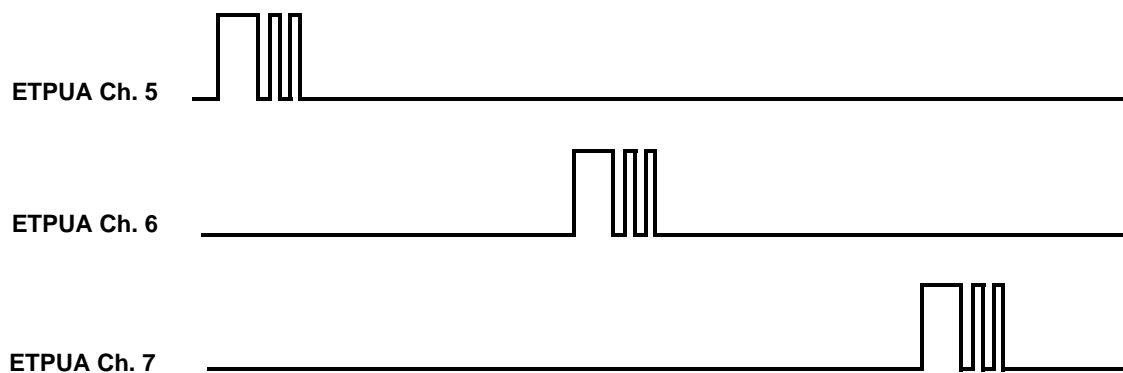

Figure 4. Spark function example – output capture
- Program Output — The outputs of the three SPARK functions will look similar to the plot shown in Figure 4.